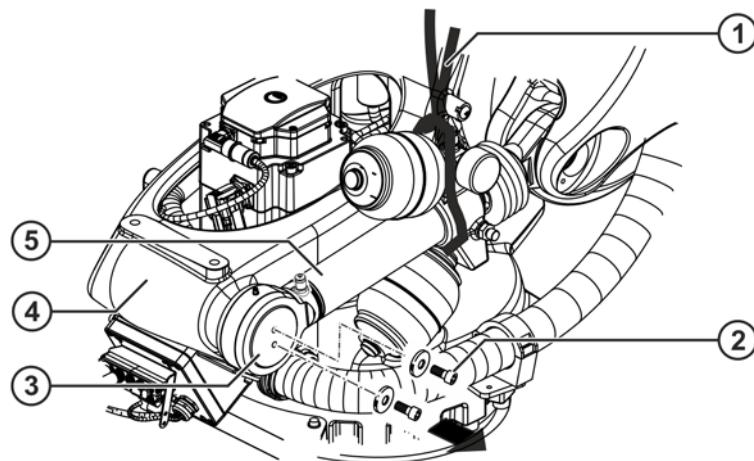

Fig. 11-29: Removing the counterbalancing system on a ceiling-mounted robot, rotating column
7. Remove 2 Allen screws and lock washers, and take the cover off the rotating column (=>> Fig. 11-29).